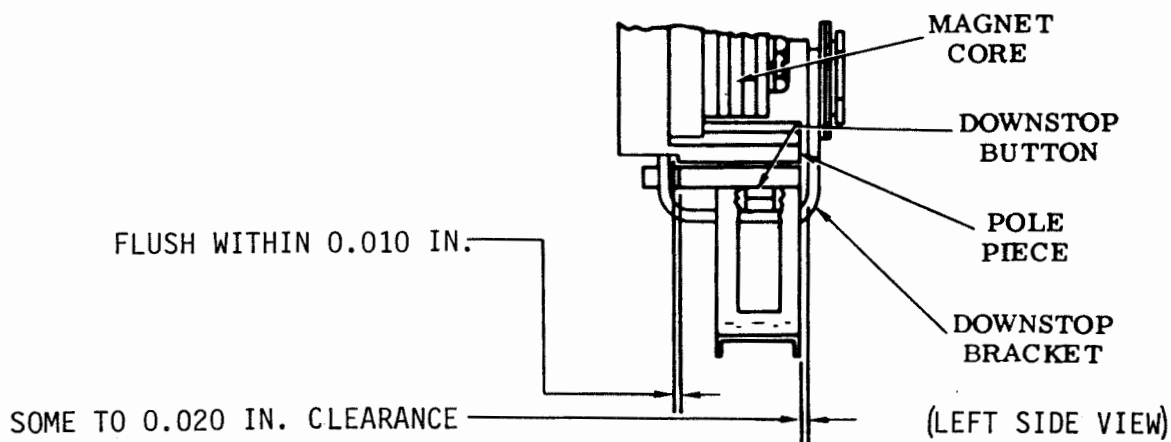

Figure 6-98. Selector Armature Alignment
(1) Refer to figure 6-98.
(2) Ensure rear edge of armature is flush with rear edge of pole piece within 0.010 inch.
(3) Ensure there is some clearance not exceeding 0.020 inch between front edge of armature and pole